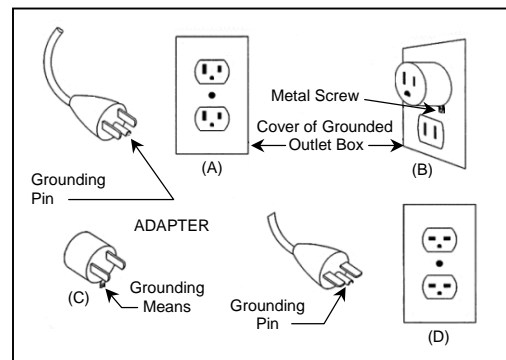

FIGURE 1
**⚠ WARNING** This tool is intended for use on a circuit that has an outlet that looks like the one shown in Sketch A of Figure 1. The tool has a grounding plug that looks like the plug illustrated in Sketch A of FIGURE 1. A temporary adapter, which looks like the adapter illustrated in sketches B and C, may be used to connect this plug to a 2-pole receptacle as shown in Sketch B, if a properly grounded outlet is not available. The temporary adapter should be used only until a properly grounded outlet can be installed by a qualified electrician. The green-colored rigid ear, lug, and the like, extending from the adapter, must be connected to a permanent ground such as a properly grounded outlet box.